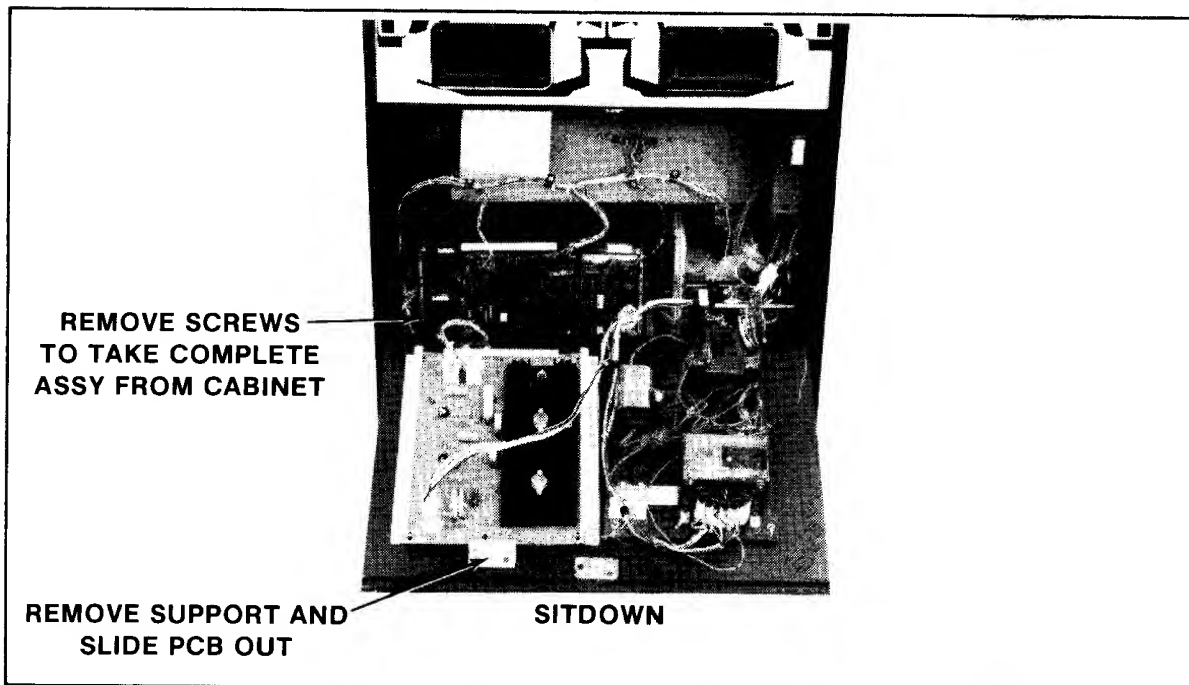

FIGURE 34
4. Sit Down model — See Figure 34.
- e. Remove the screws indicated in Figure 34 and the mother board plus its mounting assembly are now free to be slid out of the cabinet.
- g. Remove the screws from the P.C.B. supports indicated in Figure 34 and then remove the supports.